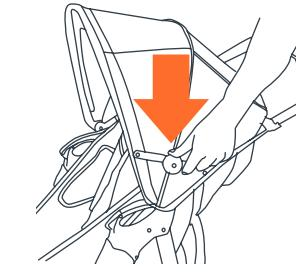

Fig. 8
- 8)** • **To open the canopy:** push forward on the front edge of the canopy. Push downward on the tensioners to secure (Fig. 8).